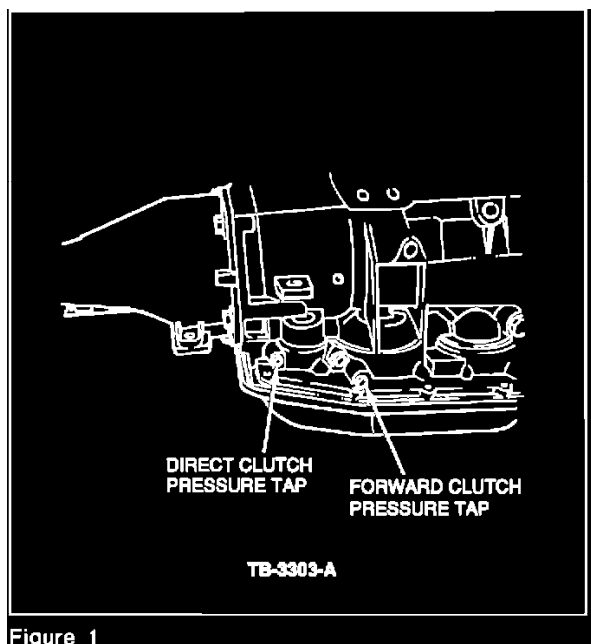

Figure 1
1. Attach 0-300 psi (0-2068 kPa) pressure gauges to the forward clutch and to the direct clutch pressure tap, Figure 1.